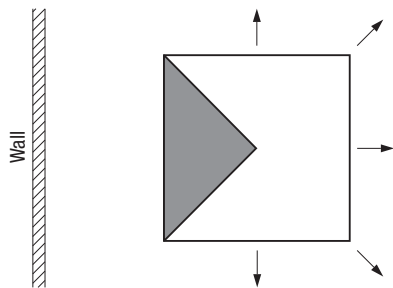

Figure 10: 3-way discharge in front of a wall
a) The segment cover in Fig. 10 is for 3-way discharge